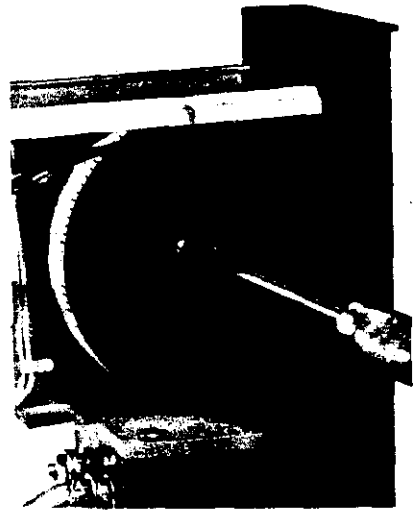

FIGURE 7-2 – Disassembling Drum from Set Point Assembly
4. Loosen two screws holding the set point drum, which are located on either side of drum hub. (See Figure 7-2.) Rotate drum enough to lift it out through key-hole-slotted holes in drum core, and remove drum from side of station opposite to circuit board. (See Figure 7-3.)